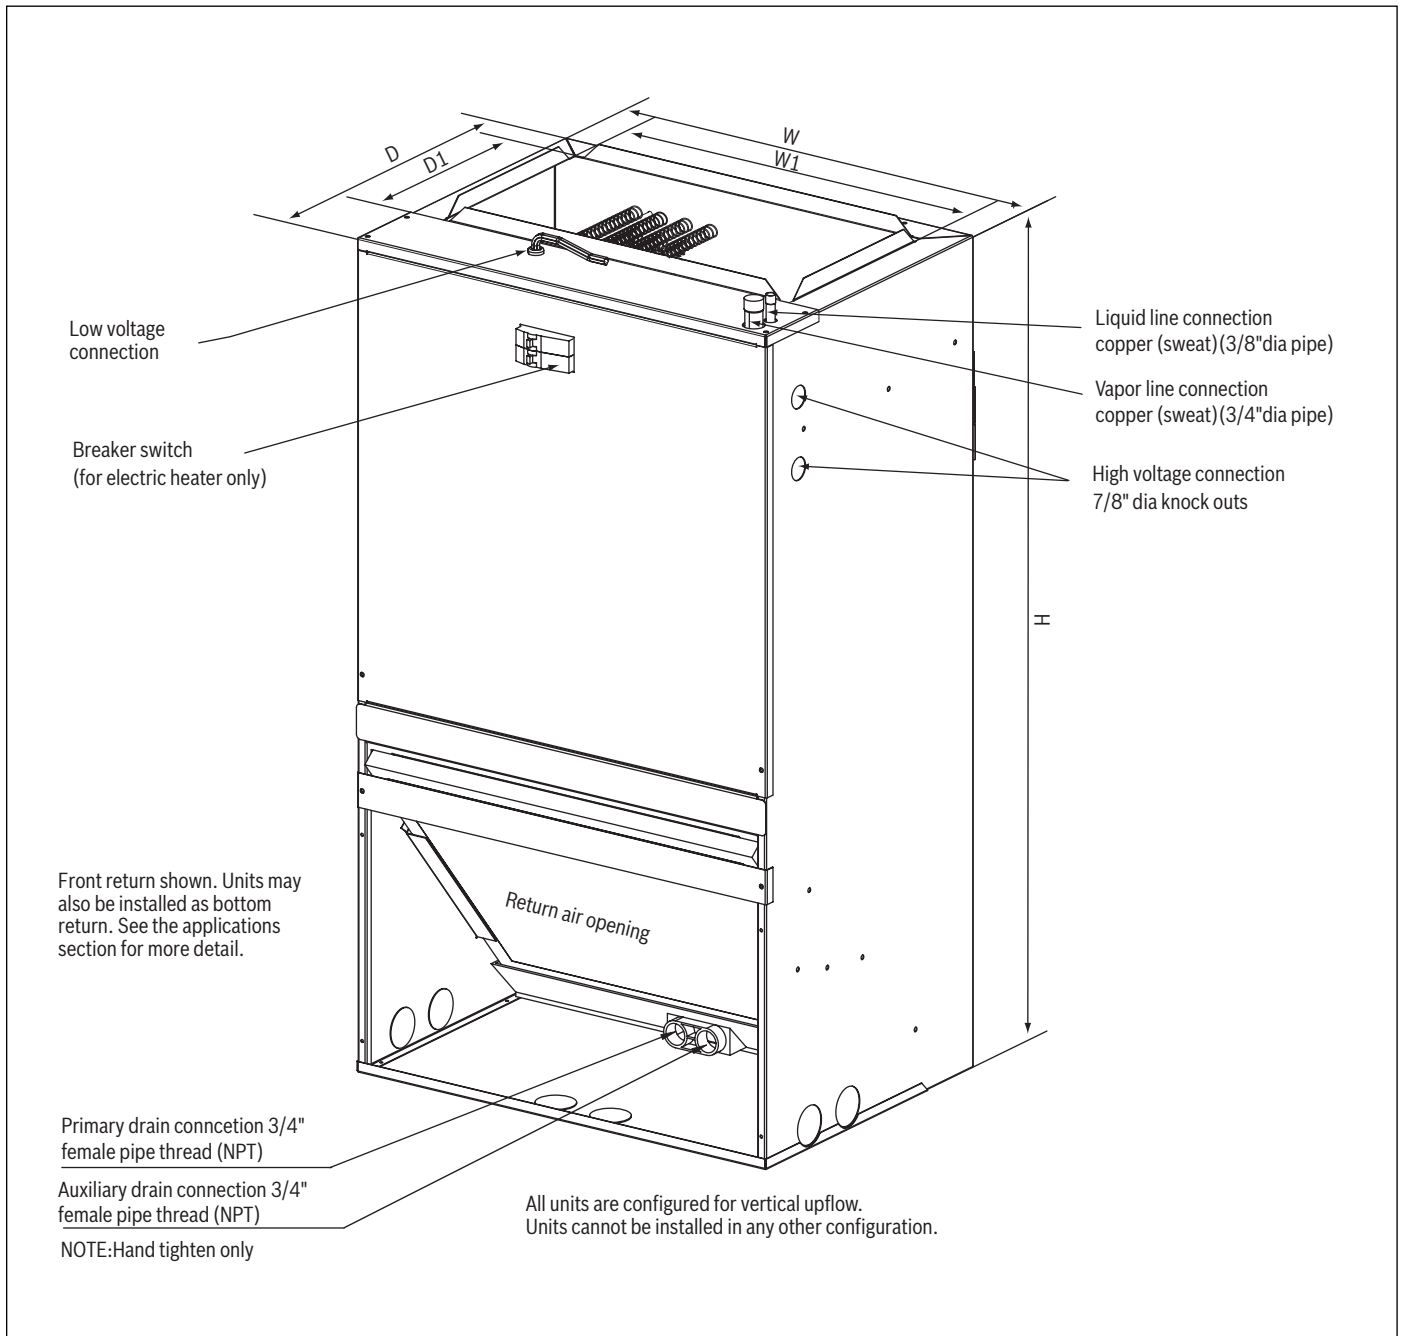

Figure 2 Unit dimensions
Please refer to Figure 2 for high and low voltage wiring connections.
- ▶ Two 7/8" dia. concentric knockouts are provided for running high voltage wiring to the unit. Refer to Figure 2 for High Voltage knock out locations.
- ▶ Low voltage wire connections are made to low voltage pigtails extending from top of air handler (see Figure 2). Connections for control wiring are made with wire nuts. Control wiring knockouts (7/8") are also provided on the right and left side of the unit for side connection.